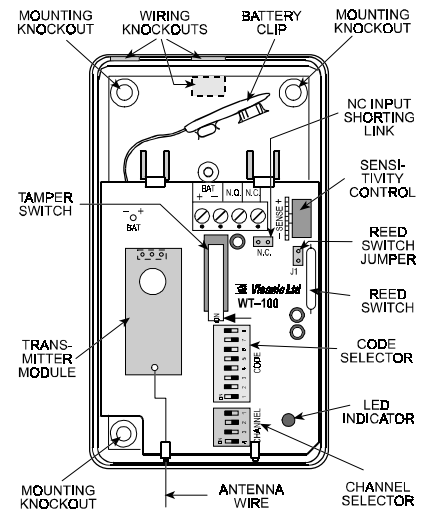

Figure 1. WT-100 and WT-100A
**Note:** If the **N.C.** input is not used, it must be shorted by installing a jumper on the **N.C.** header below the terminal block (Fig. 1).